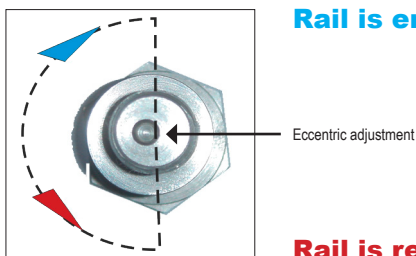

Fig. 4
6. The marking shows the position of the eccentric (Fig. 4).